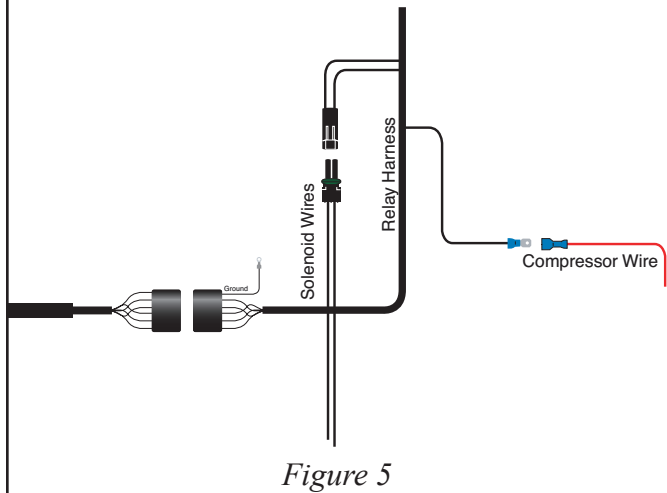

Figure 5
2. Connect the red wire with the female terminal from the compressor to the male terminal coming from the relay wire (Figure 5).
3. Connect the double terminal connector from the solenoid to the double terminal connector relay wires (Figure 5).